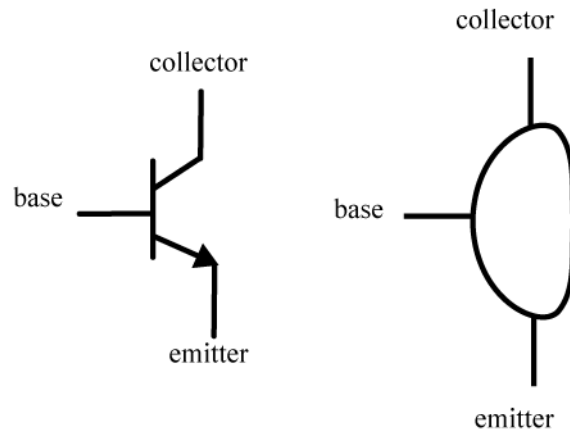

Figure 2. Circuit symbol for an npn BJT (left) and physical device (right).
2) The npn BJT is represented by the symbol shown in figure 2, and it has three terminals. If you hold the BJT with the flat part to the your right, then the collector is on top, the base is in the middle, and the emitter is on the bottom.